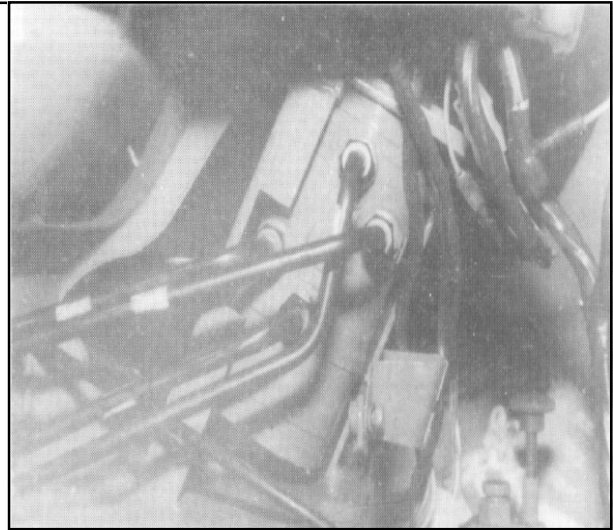

Figure 4
6. Withdraw the four retaining screws and remove the loser steering column shroud by withdrawing main harness connector to gain access to the steering column to motor coupling. Figure 4.